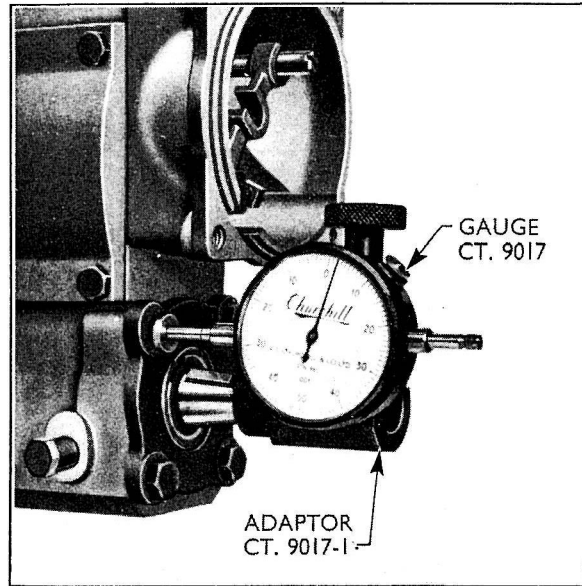

Fig. 17.
It is advisable to check the camshaft end-float at this stage with the special gauge (Tool No. CT.9017) and adaptor (Tool No. CT.9017-1) as shown in Fig. 17. The end-float should be between 0.002 and 0.006 in. (0.05 to 0.15 mm.) and should adjustment be necessary it can be made when reassembling the camshaft.
4. Position the camshaft in the cambox, pack the bearings with high melting point grease, apply a thin coating of jointing compound to the bearing housing flanges and gently tap the housings into position. Replace the housing retaining screws (the pump timing plate fits under the two outside screws retaining the coupling end bearing housing) and spring washers, and re-check the camshaft end-float (see Fig. 17) which should be between .002 to .006 in. (.05 to to .15 mm.).